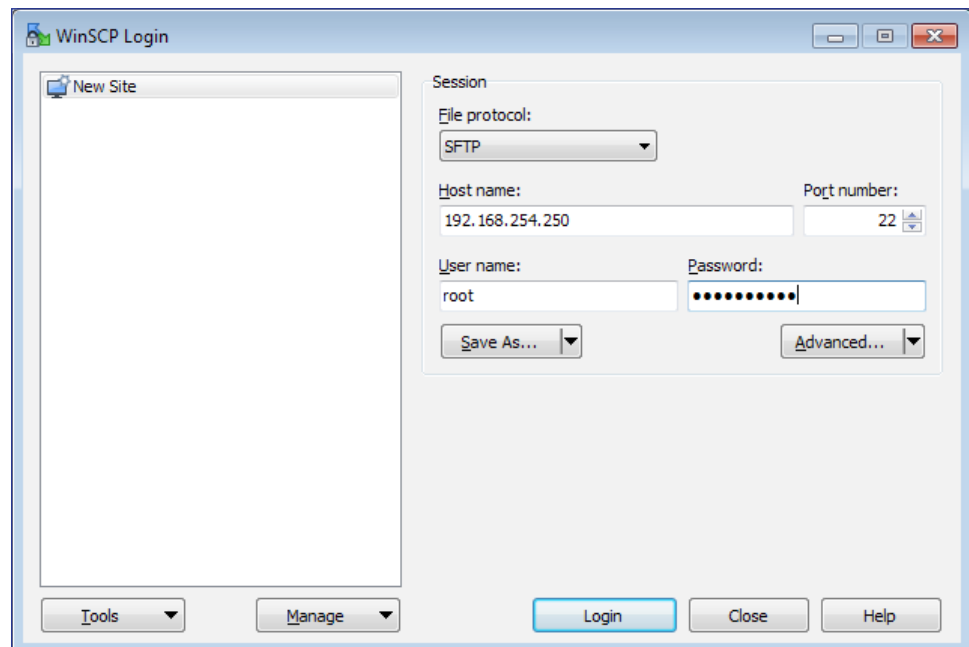

Figure 175. WinSCP Login Screen
1. Reconnect WinSCP to the Enterprise Controller Cluster IP. Open WinSCP and create a connection with the following parameters (see figure 175):